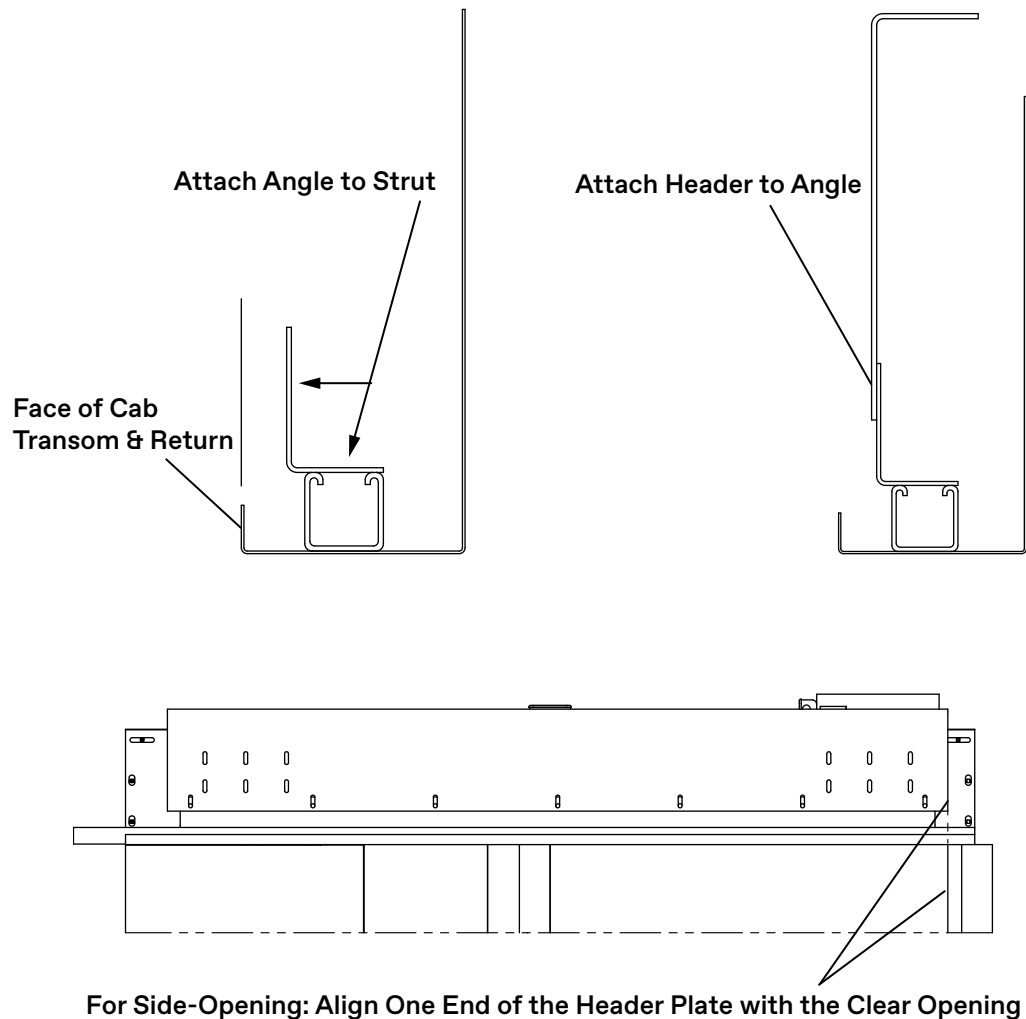

Figure 24 - Mounting Angles and Header Installation
See Figure 24 on page 29.
4. Use the included hardware to install the door operator header to the mounting angle. See Figure 24 on page 29.